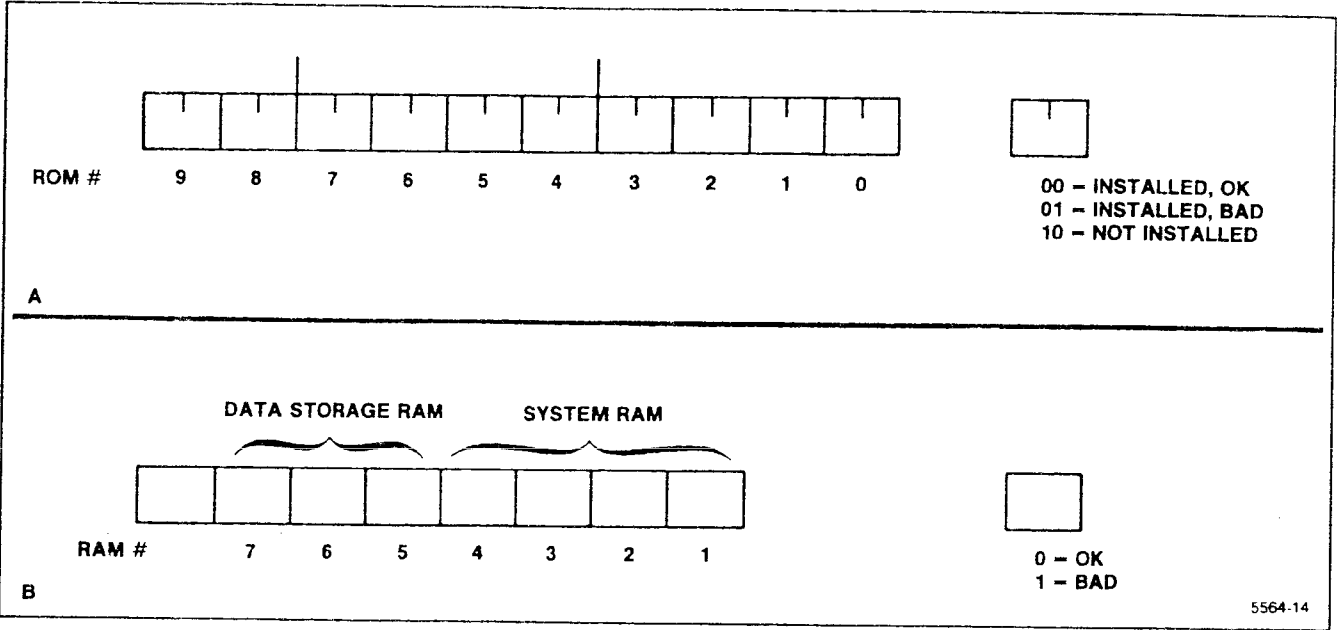

Figure 8-1. TEST Conversion Chart.
The TEST query response consists of two decimal numbers that indicate if a ROM or RAM IC was found to be defective. These numbers must be translated to their binary equivalents to determine the ROM and RAM locations. (If all ROM and RAM are good, the TEST query response will be ROM:0, RAM:0.) After the binary numbers are determined, put them into the conversion chart in Figure 8-1 to identify the IC number. Then, use Table 8-3 to find the correct circuit number and circuit board. The following example shows how to use the conversion chart and Table 8-3. If any ROM or RAM ICs are indicated to be bad, refer this information to qualified service personnel.
2. Insert this binary number in part A of Figure 8-1 (right-justified). Blocks 6 and 2 will be 0's. This indicates that both ROM 6 and ROM 2 are bad; all other ROMs are good.
2. Insert this binary number in part B of Figure 8-1 (right-justified). Blocks 5 and 2 each contain a 1, which indicates that both RAMs 5 and 2 are bad; all other RAMs are good.